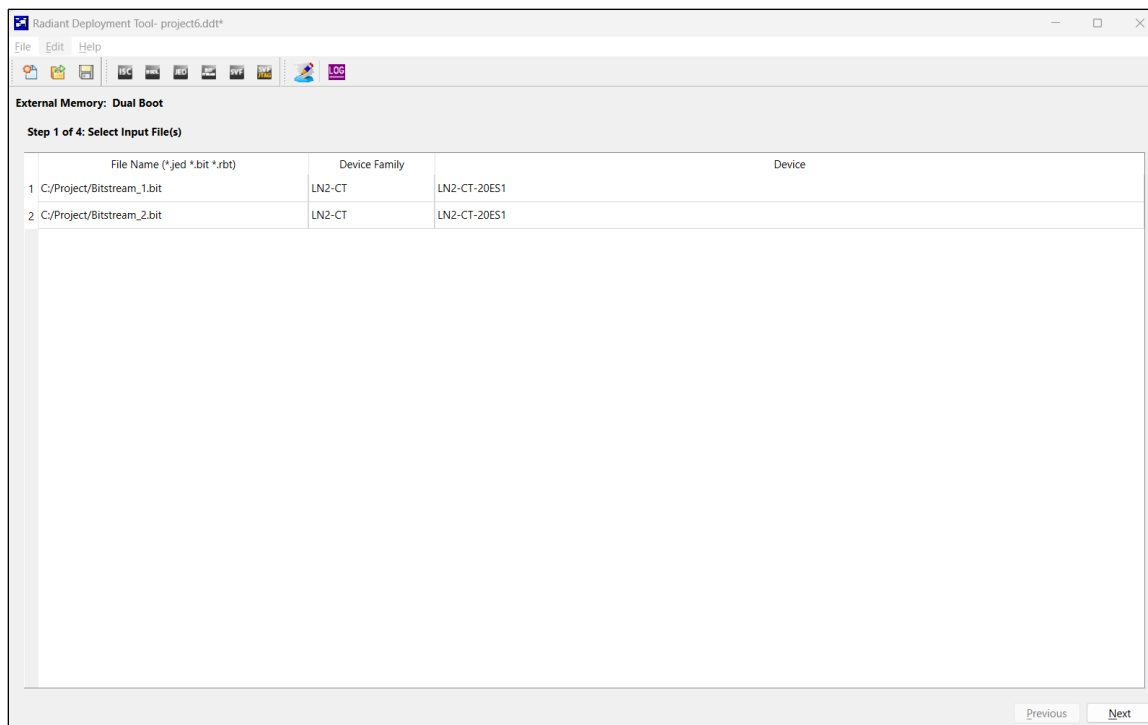

Figure 7.2. Select Input File(s) Window
Step 1 of 4: Select Input File(s) window (Figure 7.2)